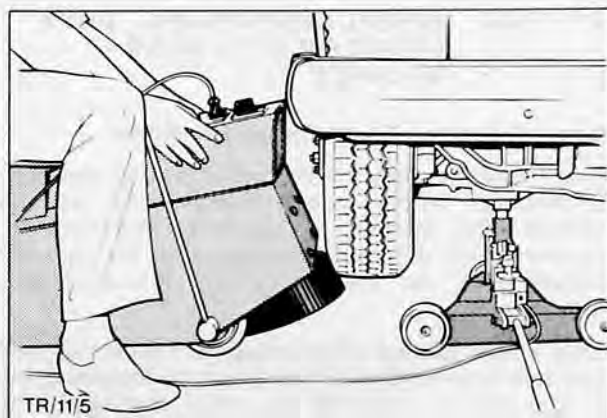

Fig. 5. Typical 'on car' balancer in position
3. For front wheels, position spin-up motor in correct position, relative to wheel to be balanced, Fig. 5.